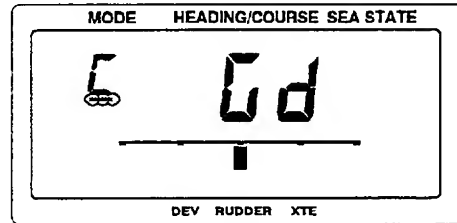

Fig. 7-6 Indication after clearing the memory
- When the memory is cleared the display looks like Fig. 7-6.